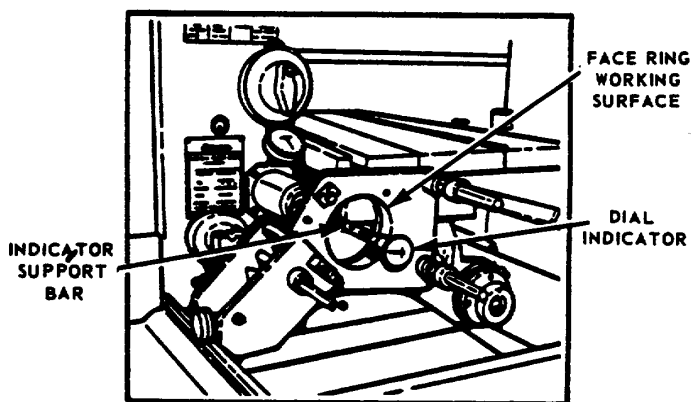
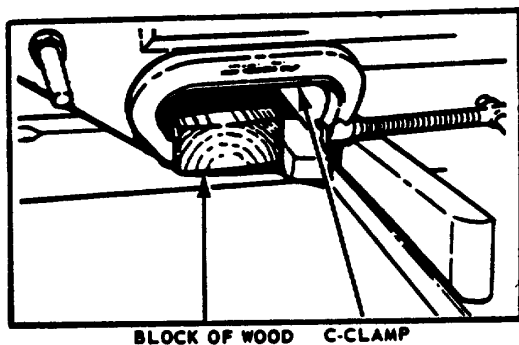

FIGURE 114
FIGURE 115
- g. See Figure 114. Attach Dial Indicator to Indicator Support Bar position arm and Indicator so Indicator will sweep Face Ring Working Surface. Lock arm in this position by clamping to Rectangular Torque Bar with a C-clamp and Block of Wood (see Figure 115) so it will not move during the following steps.